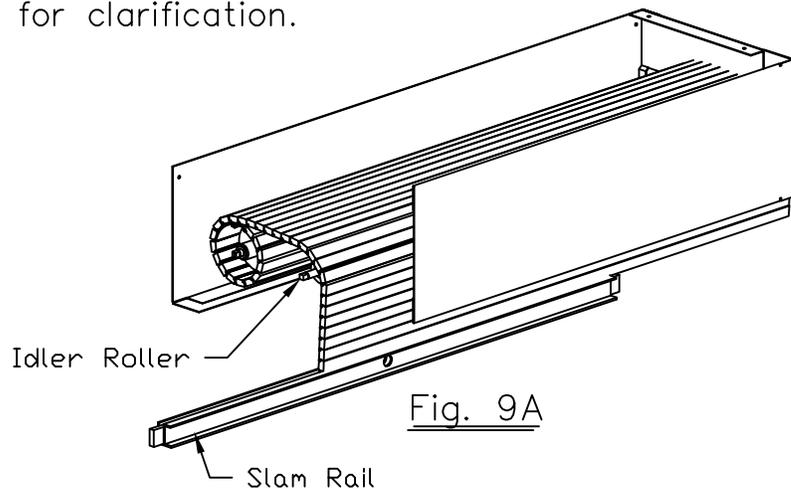

Fig. 9A
9. Hold door firmly and remove the tape on the door. Pull tambour door over idler roller and down through the opening in the metal housing. Continue to hold door firmly and re-install the slam rail. (Fig. 9A)
10. Re-install metal housing top using the (6) screws that were removed in step 1. Set metal housing back on top of unit and test door operation.